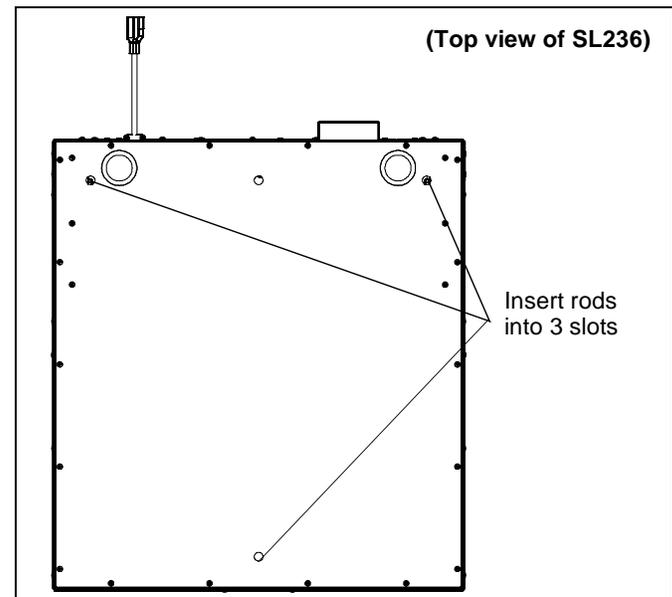

Figure 6
4. Place SL236SP onto threaded rods, inserting the rods into the three slots on top of the SL236SP. (See Figure 6)